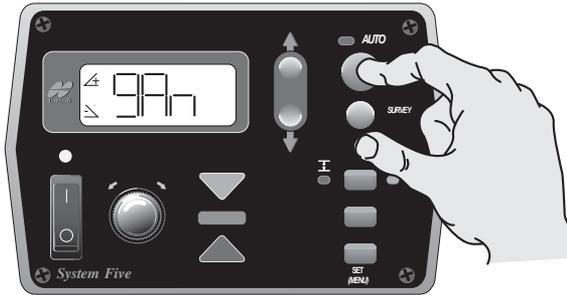

Figure 4-27. Select Gain (Slope Control)
1. From the Performance menu, press the Auto button to select Gain (Slope Control) (Figure 4-27).